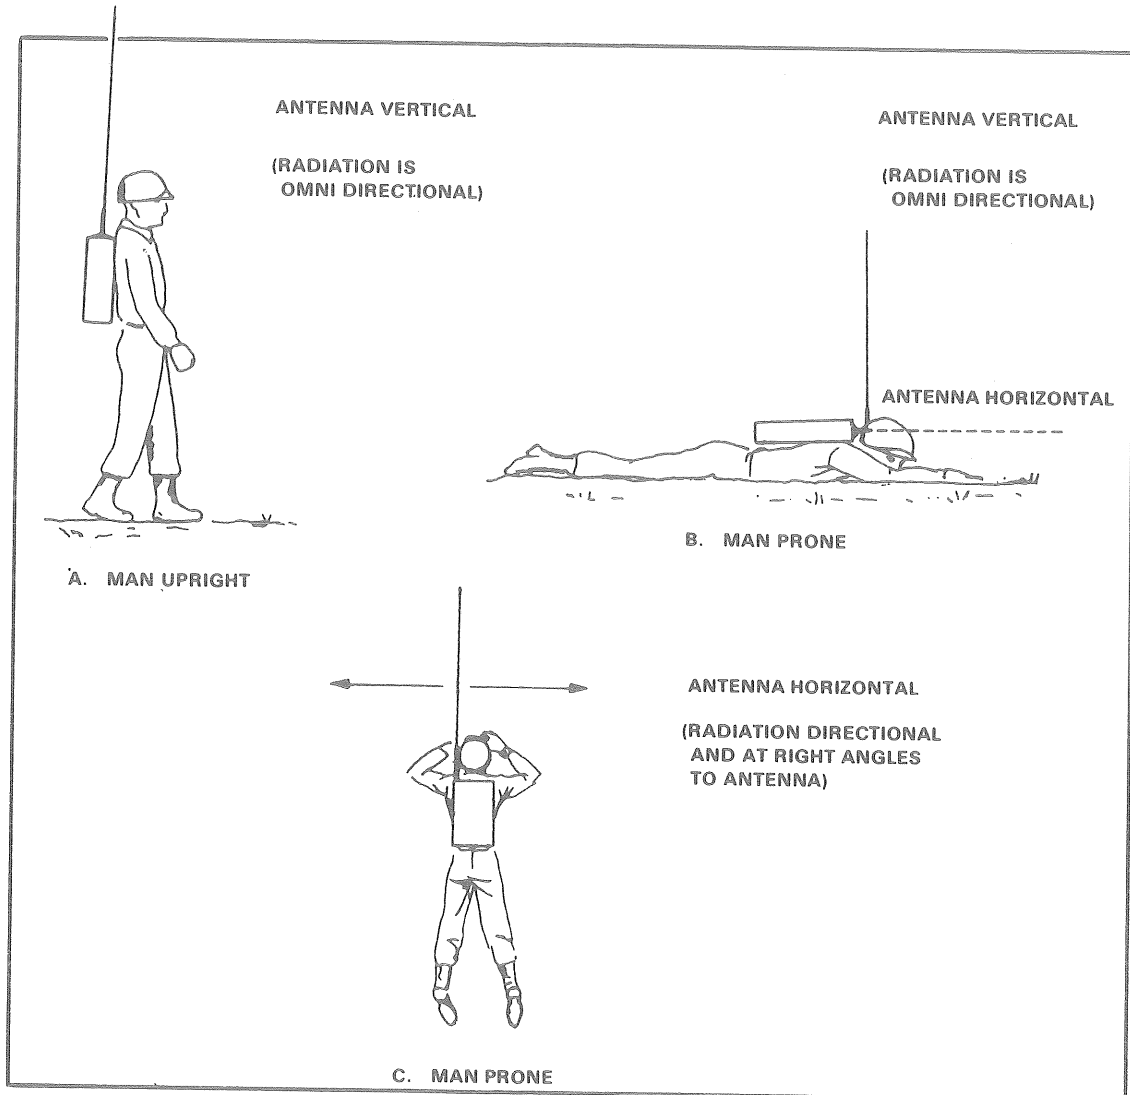

Figure 3. Orientation of antenna in various positions on operator.
- c. If you cannot reach the distant station, use various combinations of the siting and operating techniques (fig 3).